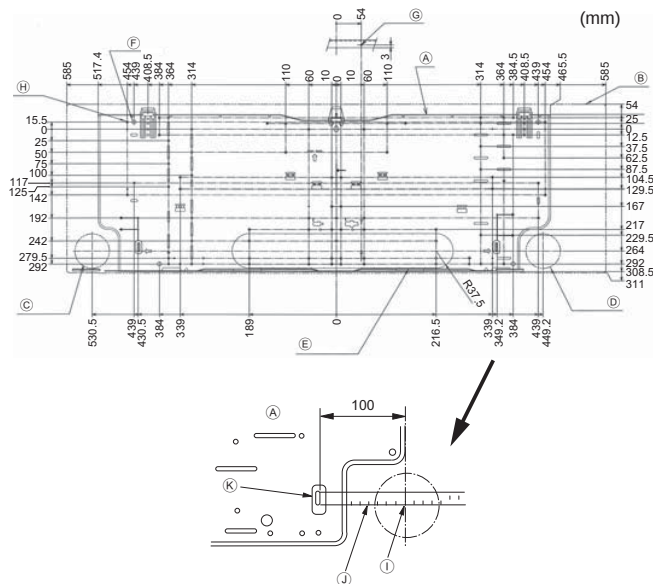

Fig. 3-2
■ PKFY-P-VKM-E (Fig. 3-2)
- (A) Mount board ①
- (B) Indoor unit
- (C) Bottom left rear pipe hole (ø75-ø80)
- (D) Bottom right rear pipe hole (ø75-ø80)
- (E) Knockout hole for left rear hole (75 × 480)
- (F) Bolt hole (4-ø9 hole)
- (G) Center measurement hole (ø2.5 hole)
- (H) Tapping hole (75-ø5.1 hole)
- (I) Hole centre
- (J) Align the scale with the line.